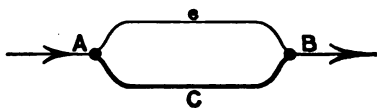

Fig. 161.
EXP. 207. — Connect two binding posts, *A* and *B*, Fig. 161, at the base upon a board by a very fine wire *c*, and a very coarse wire *C*. Place the central portion of the two wires parallel to the magnetic meridian, and pass a current from *A* to *B*. Hold a needle (galvanoscope) above the center and close to each wire in succession. Why does the needle
(2) If there are two shunts of different resistances, take the reciprocals of the resistances. This gives the conductivity of each wire. Add these conductivities, and again take the reciprocal for the combined resistance. In Fig. 161 let shunt *c* have a resistance of 3 ohms, and shunt *C* a resistance of 2 ohms, we find the combined resistance as follows:—